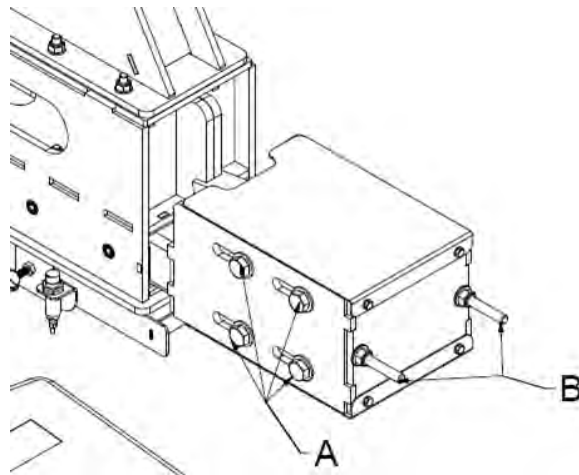

Figure 51 — Adjusting the Pusher Chain Tension
1. Loosen the eight bolts on both sides of the chain box (A, Figure 51).
2. Tighten the two nuts on the tension bolts on the end of the box (B, Figure 51) until the correct tension is reached.
3. Tighten the eight bolts on both sides of the chain box (A, Figure 51).